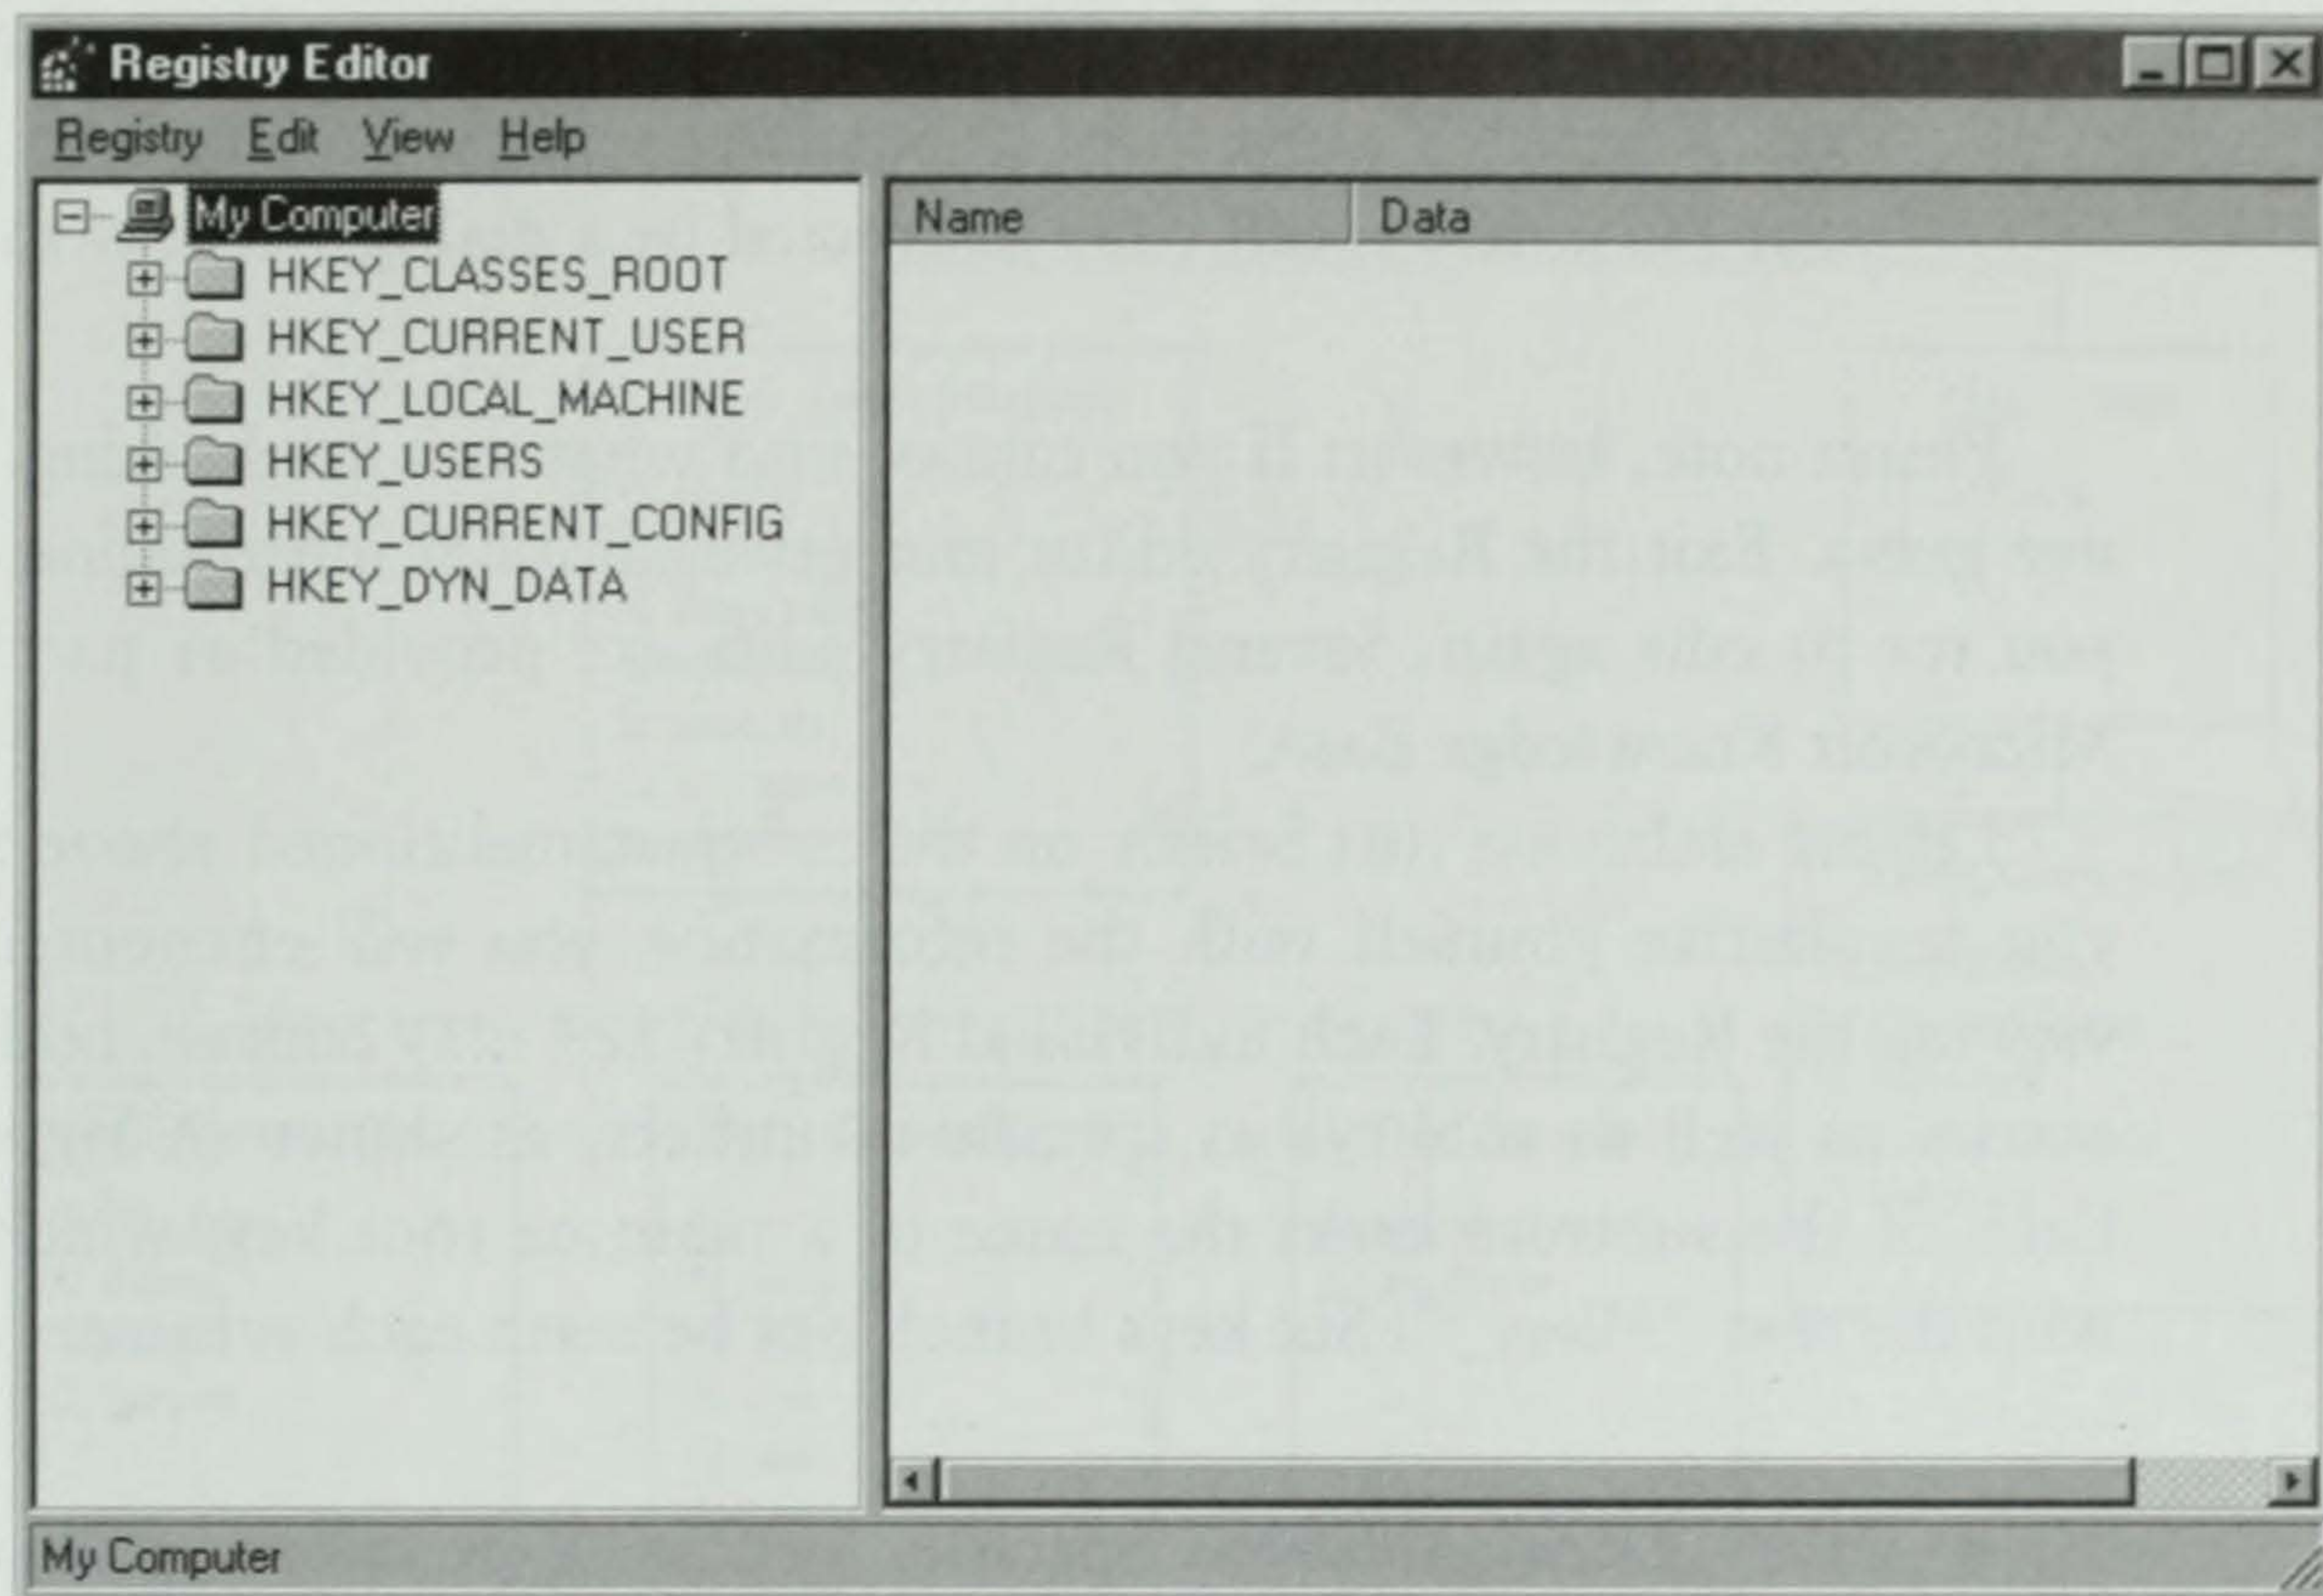

Figure 8.2 Screenshot of RegEdit.
2. Once the Registry editor loads, as shown in Figure 8.2, you will see a double-paned window from which you view the hierarchical list-